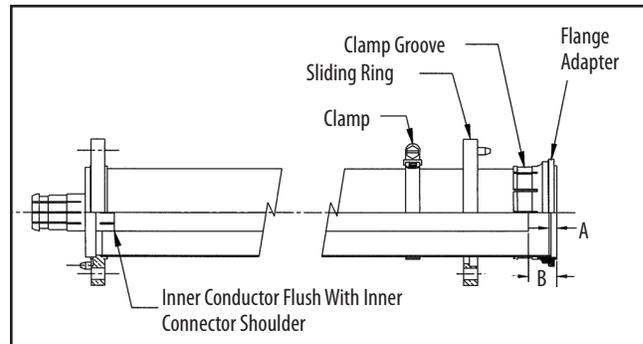

Figure 2.
1. After determining the exact length of transmission line required, deduct the “A” dimension to allow for the flange. This is the cutting length. Twice the flange allowance should be deducted if both ends of the transmission line are to be flanged. Remove the inner conductor to protect it from damage. Refer to Figure 2 and Table 1.
5. The inner conductor must be “B” dimension shorter than the outer conductor when the inner conductor is fully seated on the inner connector on the far end of the line section and the fixed ring has been installed on the near end. The “B” dimension allows for thermal expansion. See Table 1 and Figure 2. After cutting the inner conductor to the proper length, using the scribing, cutting and cleaning procedure in the previous steps, replace the inner conductor and assemble the transmission line.